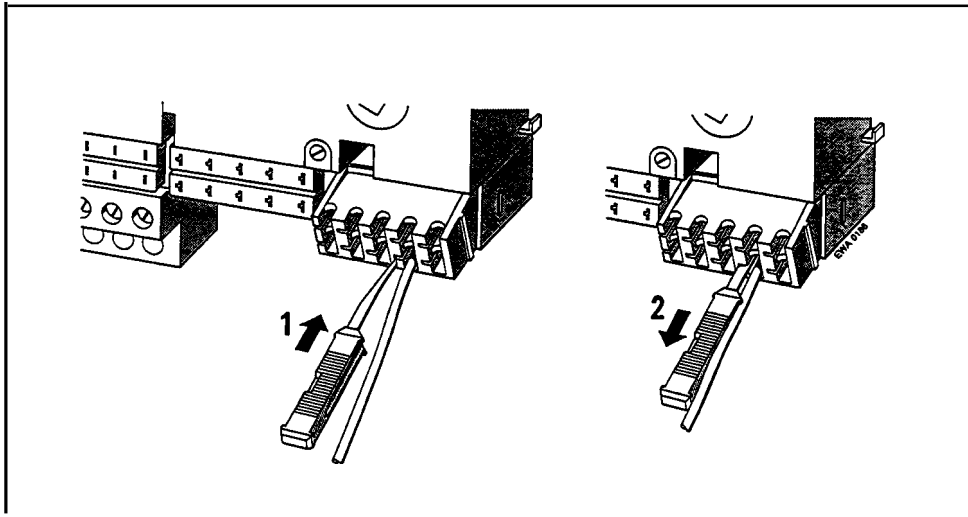

Figure 3-28 Undoing a Crimp Snap-In Connection
- Put the terminal block into the position as shown in Figure 3-28.
- Insert the extraction tool into the slot beside the terminal to compress the barb (1).
- Locate the cable in the groove on the extraction tool and pull out the tool together with the cable (2).